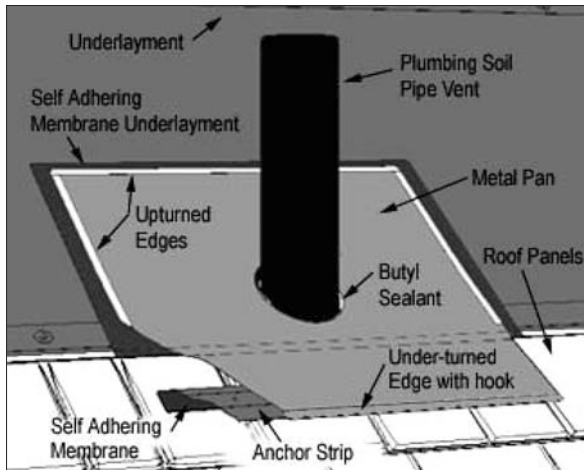

FIGURE 1-40 Completed Pipe Penetration Construction
1. Applying the flashing boot to a flat metal pan rather than the panels will ensure a tighter seal around the flashing base. *See Figure 1-40.*
3. Hem all non exposed edges of the metal pan up to provide a positive weather stop under the panels. *See Figure 1-40.*